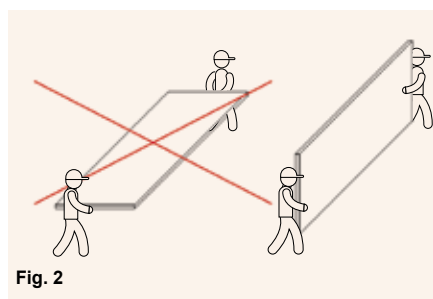

Fig. 2
**VMG Lignum Board | Floor T&G2** should be carried by hand in a vertical position, not horizontal, in order to avoid breaking (Fig. 2).